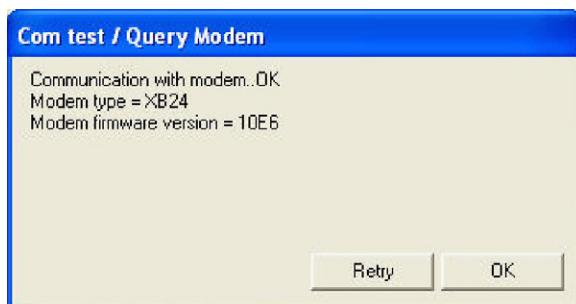

FIGURE 1.3 When the X-CTU software successfully communicates with an XBee module, you will see a display that includes the information shown here.
In the PC Settings area, find the button on the right side marked Test/Query. Click on it to test the electrical communication connection to the XBee module. A “Com test/Query Modem” window will open and it should appear as shown in Figure 1.3.
Step 6. The information shown earlier in Figure 1.3 indicates this experiment used an XB24 XBee module with firmware version 10E6. Depending on the module you have, model and firmware information might vary from that shown here. The version information uses hexadecimal, or base-16, values.